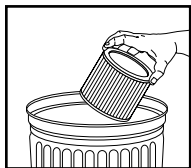

FIGURE 19
26. To clean cartridge filter shake or brush off excess dirt. **FIGURE 19.**